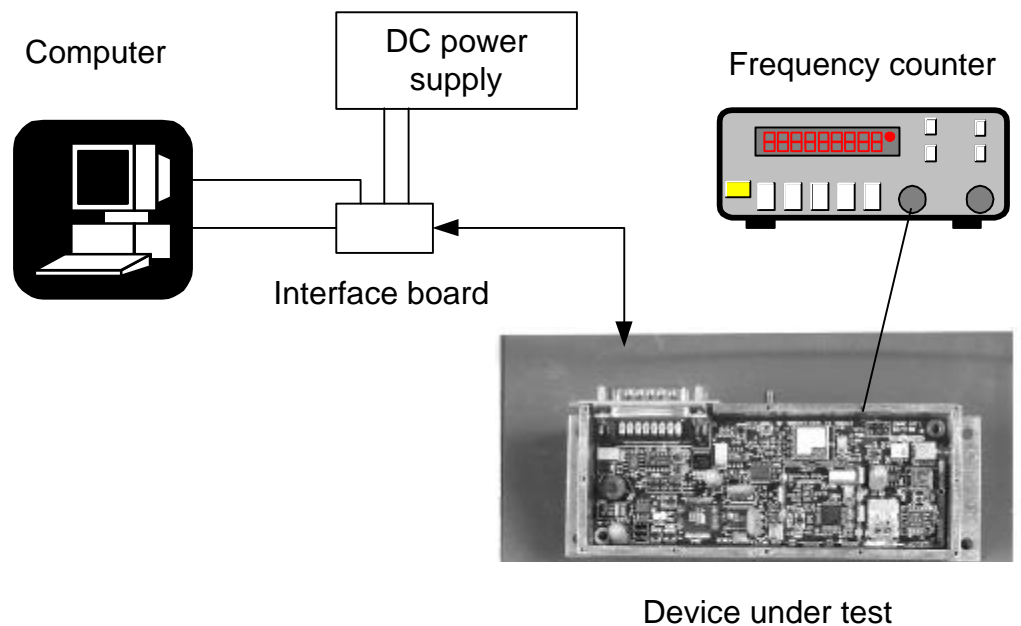

Figure 16
- 1- Connect the device under test (D.U.T.) as shown in figure 16 and turn on the power supply. With a voltmeter, measure 5.8 volts +/- 5 % at TP 13. Next, measure 5.2 volts +/- 5 % at TP 1.